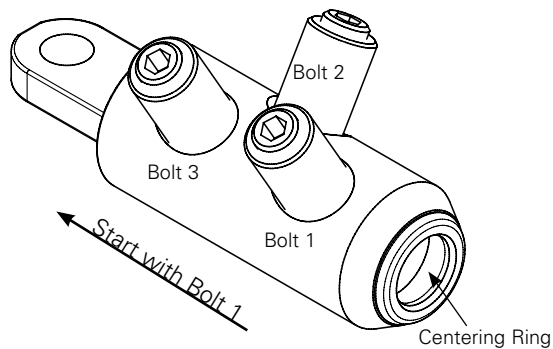

Figure 11. Mechanical lug tightening sequence.
- Refer to Figure 11 and Table 1 to determine what size conductors require a centering ring and the correct color to use.
- With an Allen hex key as specified in Table 2 screw in bolt No. 1 until it breaks off smoothly. Proceed with bolt No. 2 in a similar way. If the lug has more than two (2) bolts, continue with bolt No. 3 and bolt No. 4, (not shown in Figure 11). See Figure 11 for tightening sequences.